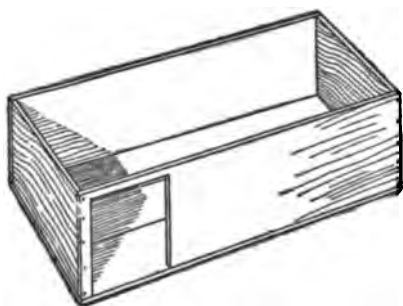

FIG. 249. — In Cutting the Opening for the Bay Windows, leave a Narrow Strip over the Opening, as above, for a "Beam."
**The Bay Windows** on the second and third stories are built of cigar-box wood. Instead of cutting away the entire width of the box at the points of attaching these bays, it is a better plan to leave a narrow strip over the opening, as shown in Fig. 249. This will hold the walls